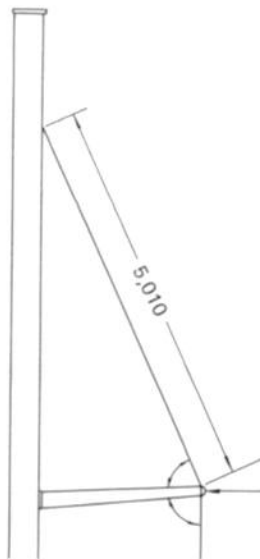

Fig. 8
Secure the tips of the spreaders to the upper shrouds (See Fig. 8).
**NOTE:** 1) A SPREADER SHOULD BE ADJUSTED SO THAT THE ANGLES BETWEEN THE SHROUD AND SPREADER ABOVE AND BELOW ARE EXACTLY EQUAL (see Fig. 8) FAILURE TO DO THIS CAN CAUSE THE SPREADER TO SLIP WHICH COULD RESULT IN THE LOSS OF THE MAST.
(3) Stepping the Mast: